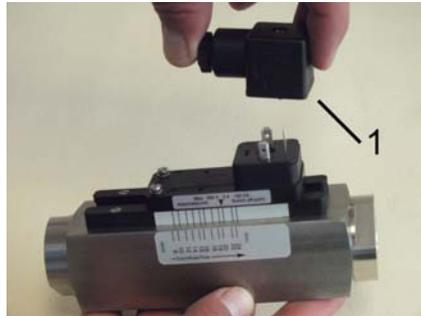

Fig. 21: Remove socket
2. ▶ Remove socket (Fig. 21/1)